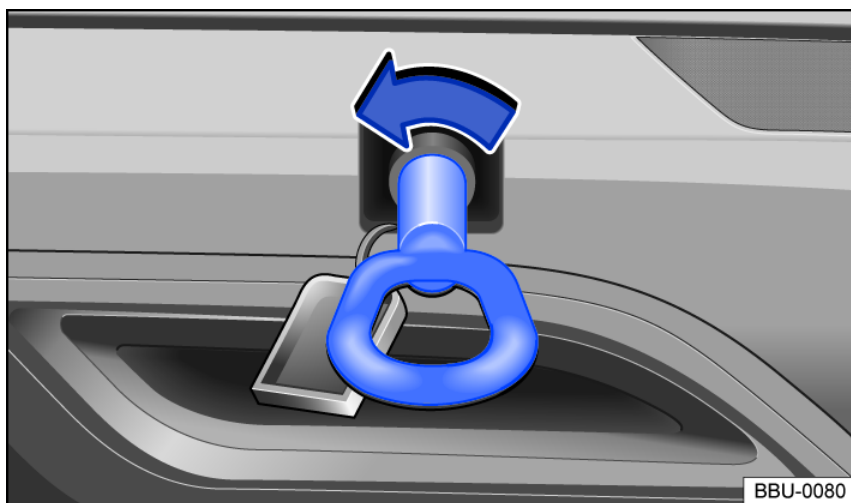

Fig. 147 In the right rear bumper: Screw in towing eye.
- Rotate the towing eye **counterclockwise** and tighten as far as it will go to install it in the opening fig. 147, ⇒ !. Use a suitable object to tighten the towing eye completely and securely in the mount.